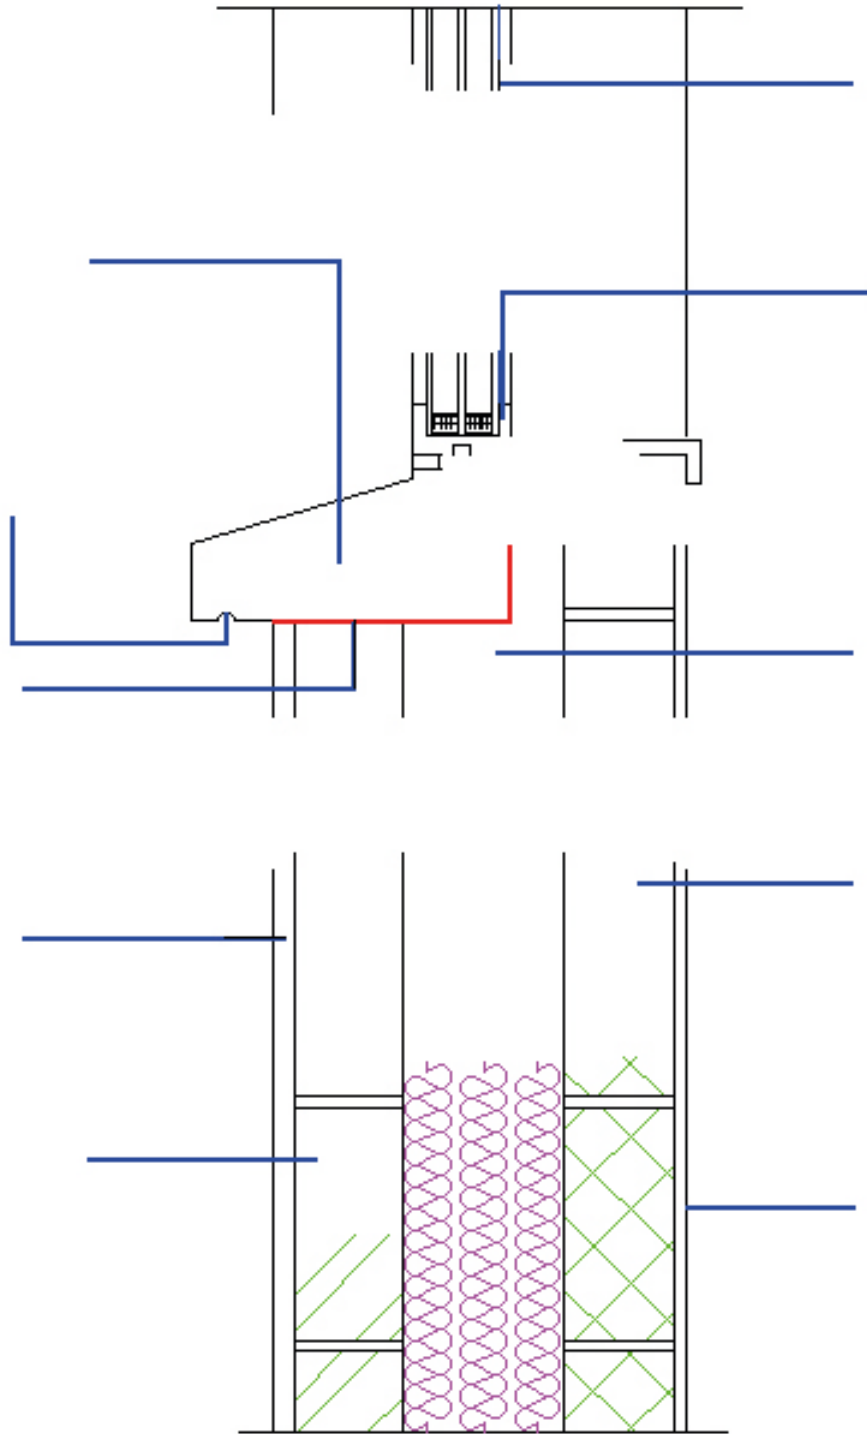

Fig. 3
7 **Fig. 3** shows an incomplete concrete sill detail.
**(a)** Complete the drawing in **Fig. 3** adding the following details: